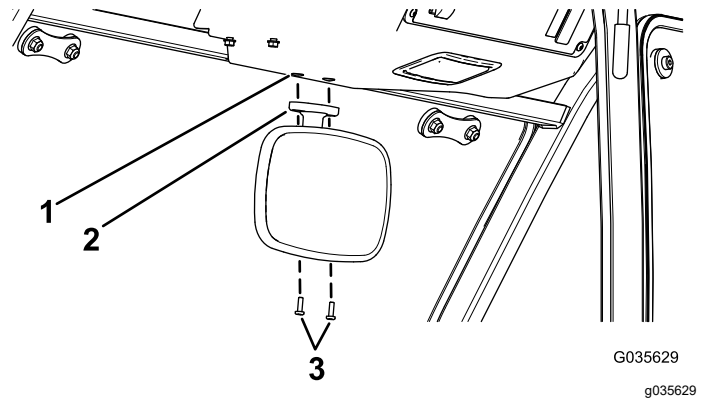
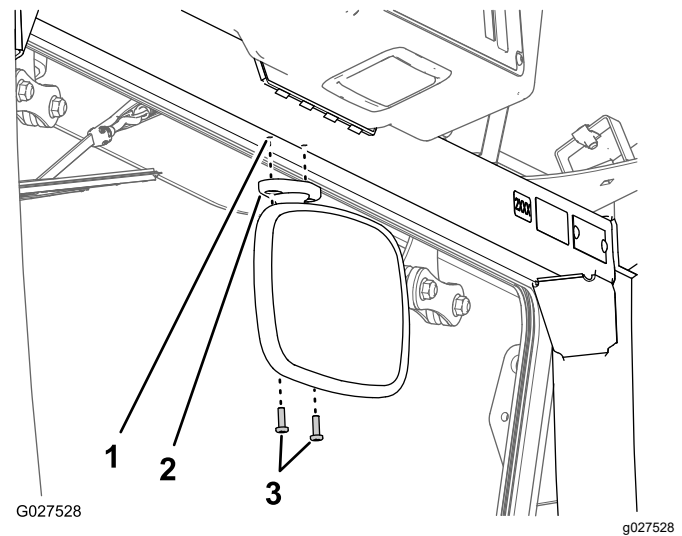

Figure 3
Figure 4
2. Align the holes in the mount for the mirror with the holes in the upper cab frame (Figure 3 or Figure 4).
3. Assemble the mirror to the cab frame with the 2 Phillips-head screws (#10 x 5/8 inch) as shown in Figure 3 or Figure 4.